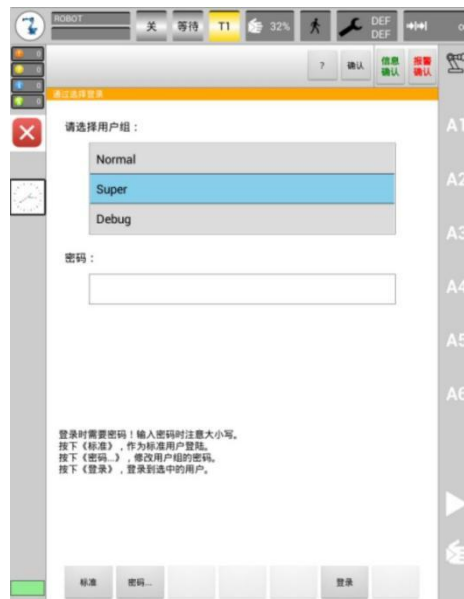

Figure 3.11 User login screen
- 2) Select "Configuration->Demonstrator Configuration->User Group" in the main menu of the Demonstrator to log in as a Super user, and the user login interface is shown in Figure 3.11;